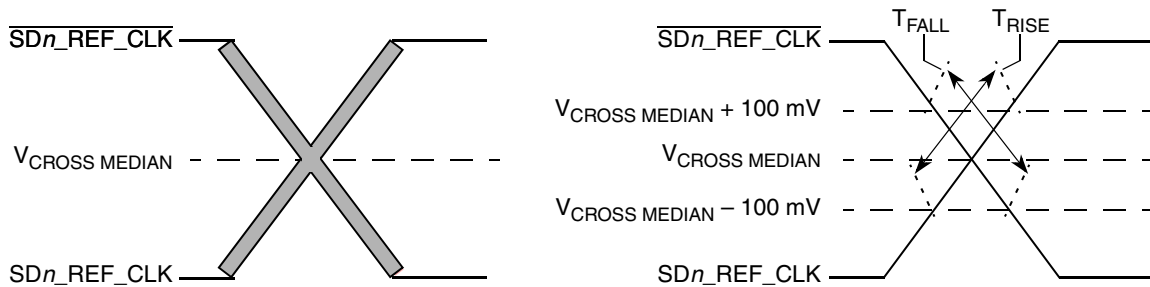

Figure 41. Single-ended measurement points for rise and fall time matching
- Matching applies to rising edge for SD_REF_CLK \bar{n} and falling edge rate for $\overline{\text{SD_REF_CLK}}_n$. It is measured using a 200 mV window centered on the median cross point where SD_REF_CLK \bar{n} rising meets $\overline{\text{SD_REF_CLK}}_n$ falling. The median cross point is used to calculate the voltage thresholds that the oscilloscope uses for the edge rate calculations. The rise edge rate of SD_REF_CLK \bar{n} should be compared to the fall edge rate of $\overline{\text{SD_REF_CLK}}_n$, the maximum allowed difference should not exceed 20% of the slowest edge rate. See Figure 41.